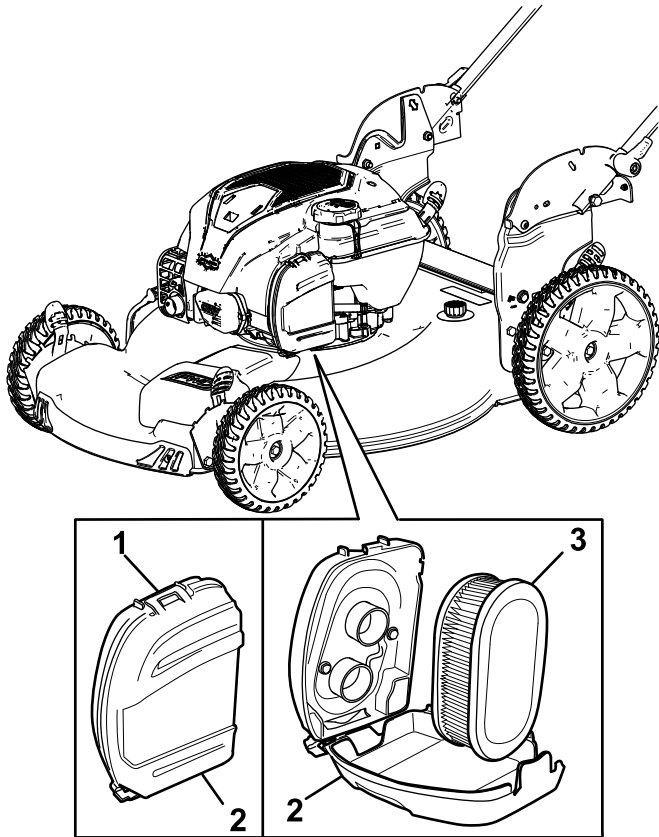

Figure 25
1. Unclip the top of the air-filter cover (Figure 25).
2. Remove the air filter (Figure 25).